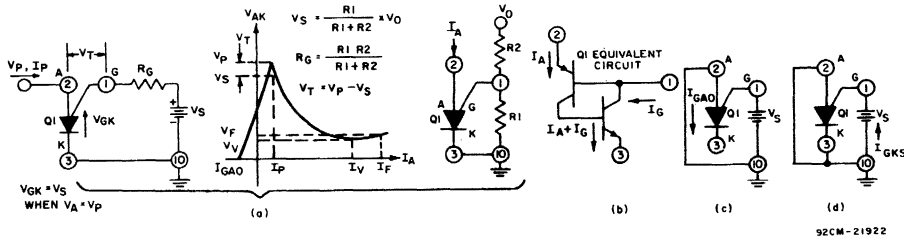

Fig. 22 - General anode characteristics for Q1 (PUT).
*V_T = V_p - V_S (Fig. 22)
The programmable unijunction transistor is essentially an anode-gate SCR. The volt-ampere characteristic of the device is shown in Fig. 22. When an equivalent Thevenin source (V_S, R_G), as shown in Fig. 22, is applied to the gate terminal the device will be "off" if the anode-voltage is negative with respect to the gate voltage. Under this condition, any current flow is exclusively leakage current. When the anode voltage becomes more positive than the gate voltage by an increment equal to the threshold voltage ($V_T = 0.4$ V typ.), the device can turn "on" only if the current available at the anode terminal is greater than the specified peak-point current. The PUT will then switch through its negative-resistance region to the "on" state (low anode-to-gate voltage). It should be noted